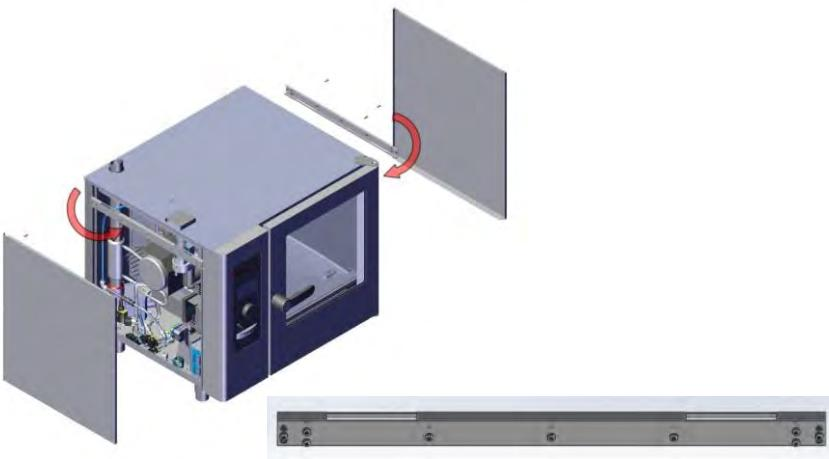

Fig. 49: Installation of the reinforcement (installation position of the reinforcement in this case left)
5. Insert both reinforcements (item 2) on the left and right into the housing and screw them to the upper stay using the oval-head screws M5x16 (items 11 and 16 respectively) (Fig. 49).